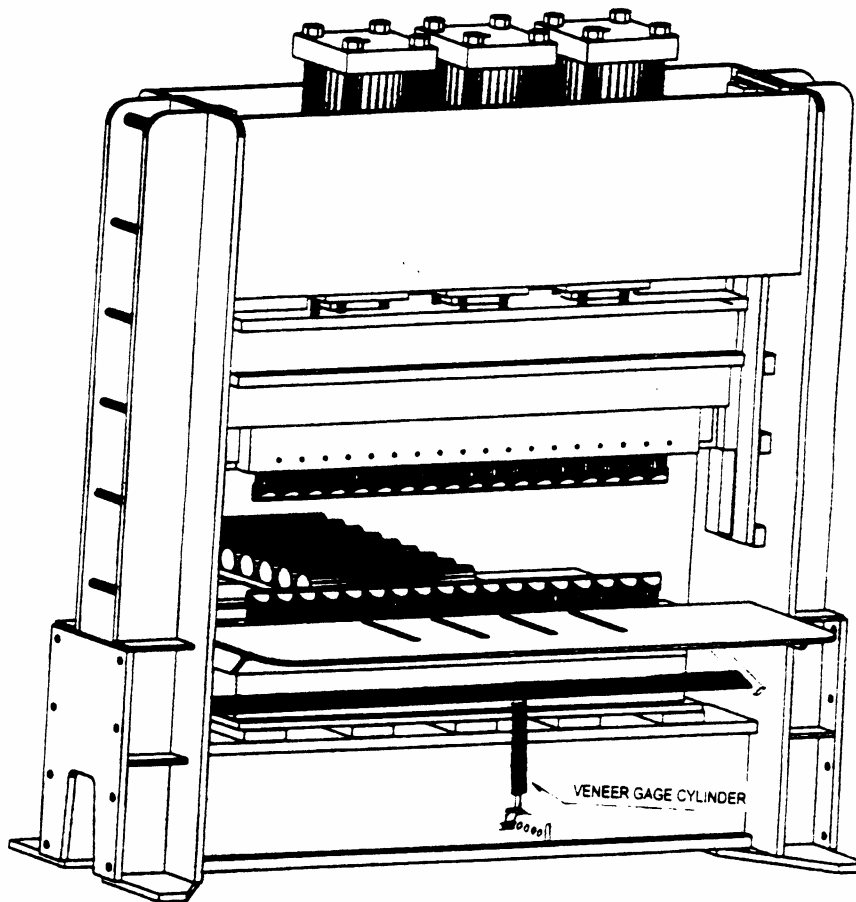

FIGURE 7
- 4- Remove the retaining pin on the hydraulic cylinder shown in Fig. 7 and move it the corresponding location. Bolts “A” and “B” and the retaining pin should be in the same corresponding holes on the respective support brackets.